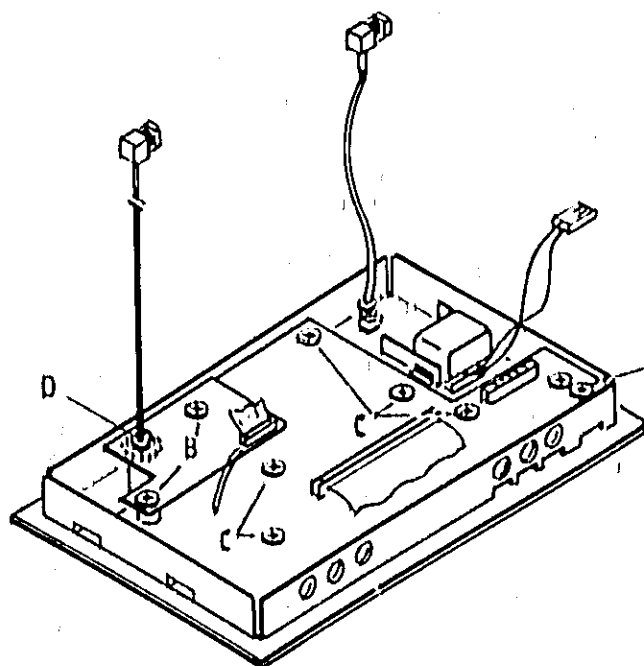

Figure 8-6-4. A8 Removal.
7. Unscrew hex nut D (figure 8-6-4) and remove copper pipe, W11.
8. To remove Connector Board A8 (08151-66508), unscrew the 2 screws marked 'B' in figure 8-6-4.
10. To remove the Key/Display Board A1, unscrew the 5 screws marked 'C' in figure 8-6-4.